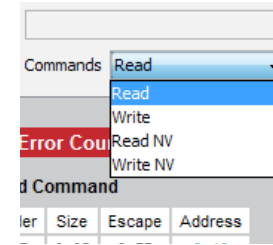

Figure 22: The Master Development System Software Command Set Tab Commands Menu
3. The Commands drop-down menu shows all of the commands that are available for the active module (Figure 22). Selecting one of the commands from this menu automatically fills in the Command box. The values can be adjusted by typing in the box.